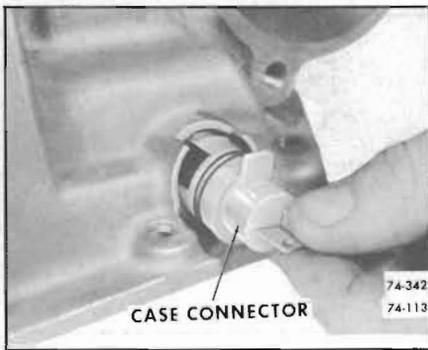

Figure 74-113
3. Remove case connector from case. Inspect connector "O" ring. If nicked, torn or worn replace. See Figure 74-113.